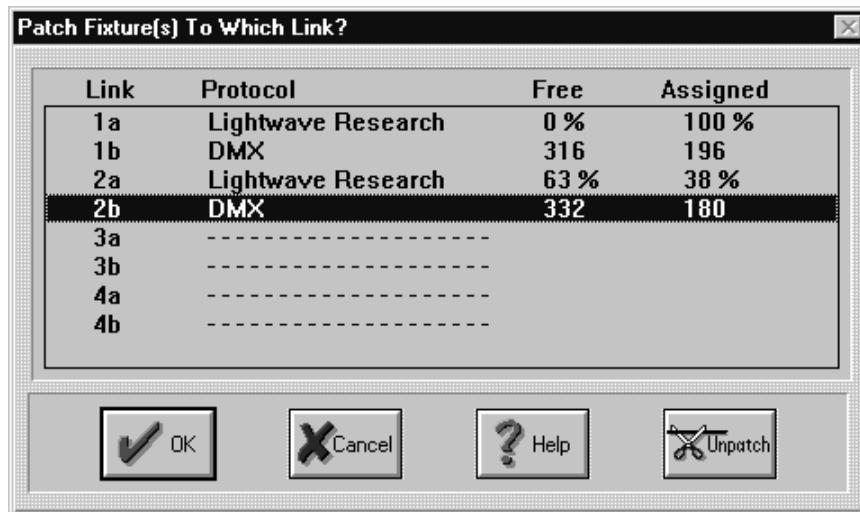

Figure 4.13. Patch Fixtures to Which Link? (LinkCard Patch) Dialogue Box
3. Click on the **Patch** button. This will bring up the **Patch Fixture(s) to Which Link?** window. Refer to Figure 4.13.
- Click the Link you wish to patch to and click the **OK** button to bring up the **Select Starting Address** dialogue box. Alternately, double click on the Link. In this example, we selected Link 2a. Figure 4.13 shows a DMX Link and Figure 4.15 shows a LWR Link. If you wish to unpatch fixtures, simply click on the **Unpatch** button.